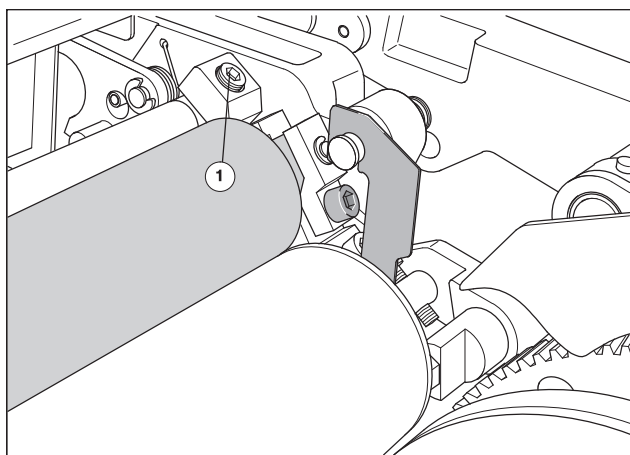

Fig. 34 Adjusting the dampening form roller - water pan roller contact area width
4. Turn the grub screw (Fig. 34/1) until the contact area has a width of 1 to 1.5 mm. - Turn clockwise: wider contact area. Turn counterclockwise: narrower contact area.